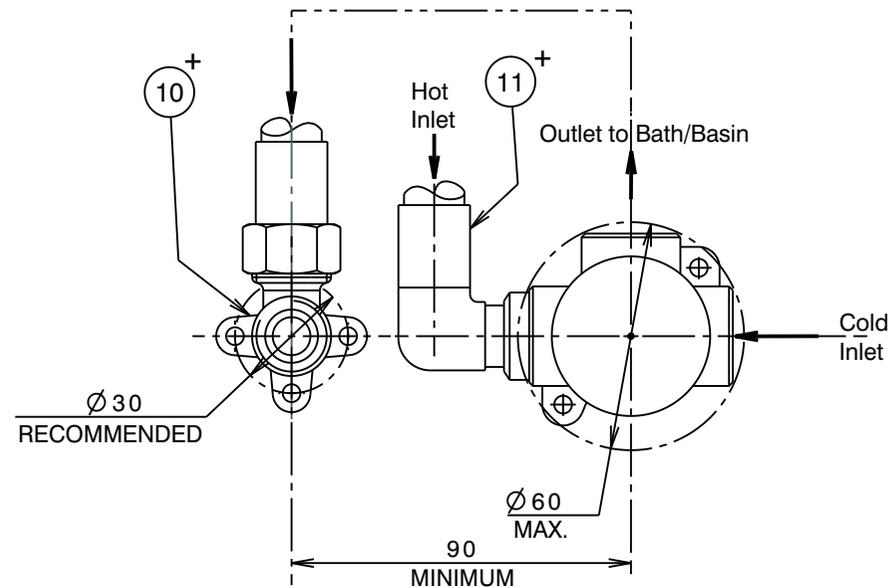

Fig. 2 (Left hand installation shown)
- 1) First decide on the installed position of the mixer body (9) and outlet (12) then fit suitable fittings to the connection ports of the mixer (9) (Fig.2). When facing the mixer, the connections should be as follows:
Fit the mixer body (9) and a lugged elbow (10⁺) onto a suitable noggin in the wall and secure using screws through the holes in their bases. **Note:** If the outlet (12) is to be located in close proximity to the mixer body (9), take care that their centres are in horizontal or vertical alignment. A suitable elbow fitting (11⁺) may be required to be fitted to the inlet connection adjacent to the lugged elbow (10⁺) (Fig. 2).
- * The mixer body (9) and the lugged elbow (10⁺) must be installed square to the wall/tile face to ensure correct installation.
- 2) Complete the connections. (Fig. 2). Check all connections for leaks and the mixer for correct operation.